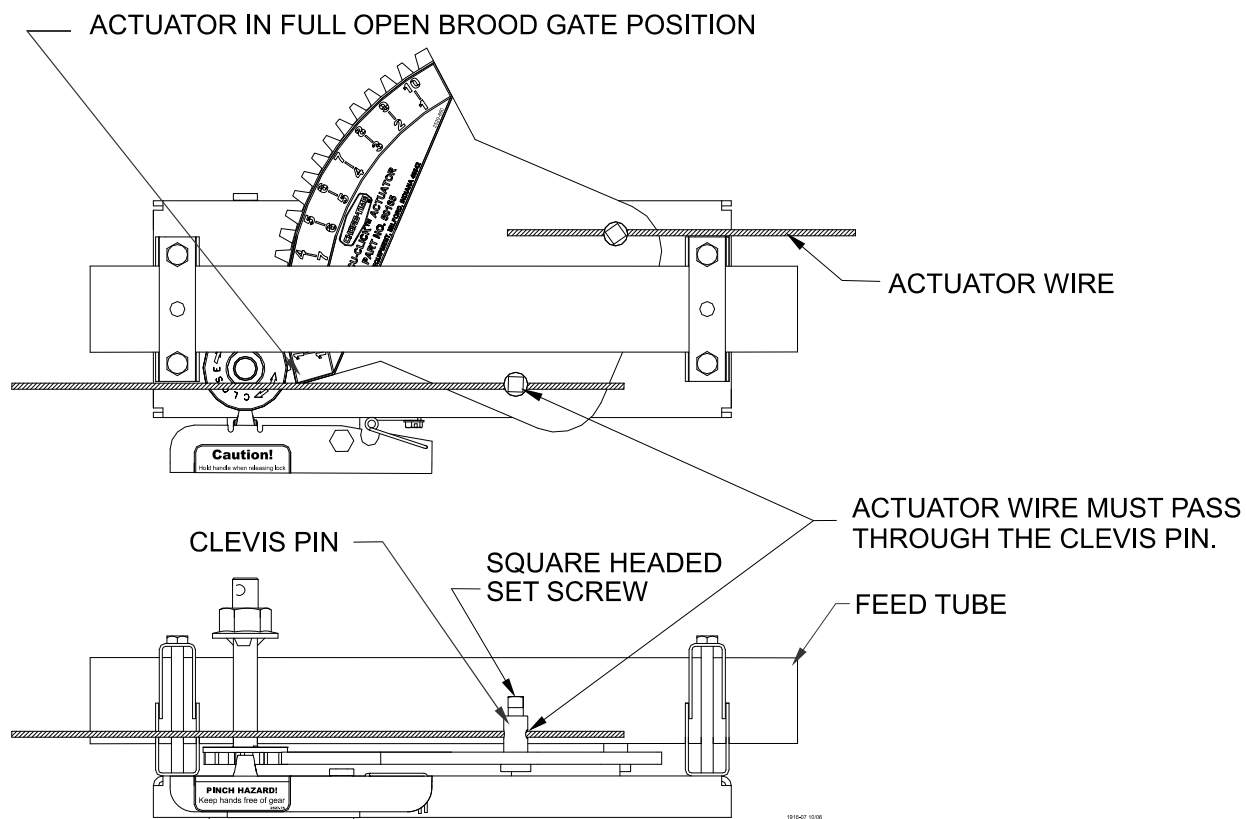

Figure 64. Actuator Wire at ACCU-CLICK™ Actuator.
- Position the actuator in the “Fully Open Brood Gate Position” (**Figure 64.**) if it is not already in the “Fully Open Brood Gate position”.
- Tighten the set screws on the clevis pins so they clamp down on the actuator wire, (**See Figure 64.**)